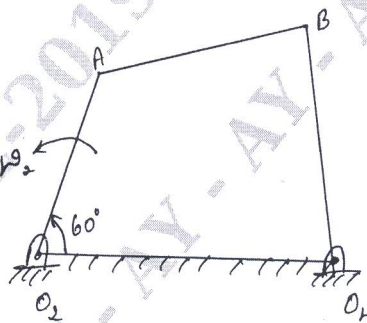

Fig.Q4(b)
- b. For the 4-bar mechanism shown in Fig.Q4(b). Determine the angular velocity of link AB and the absolute velocity of point B by instantaneous centre method. Also locate all the centers. (10 Marks)